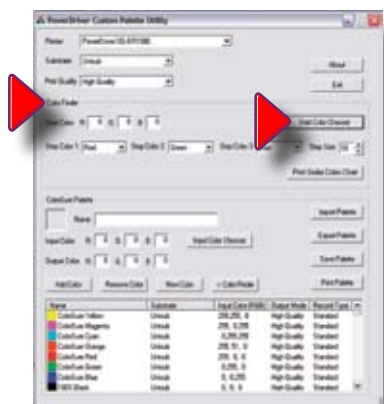

Figure 2
- First, make sure you select your desired **Substrate**, **Output (High Speed or High Quality)**, and the **Mirror** option from the **Printing Preferences Window**. Click **Apply** at the bottom of the window. This is a very important step as it will affect the final printed output. (**Figure 2**)